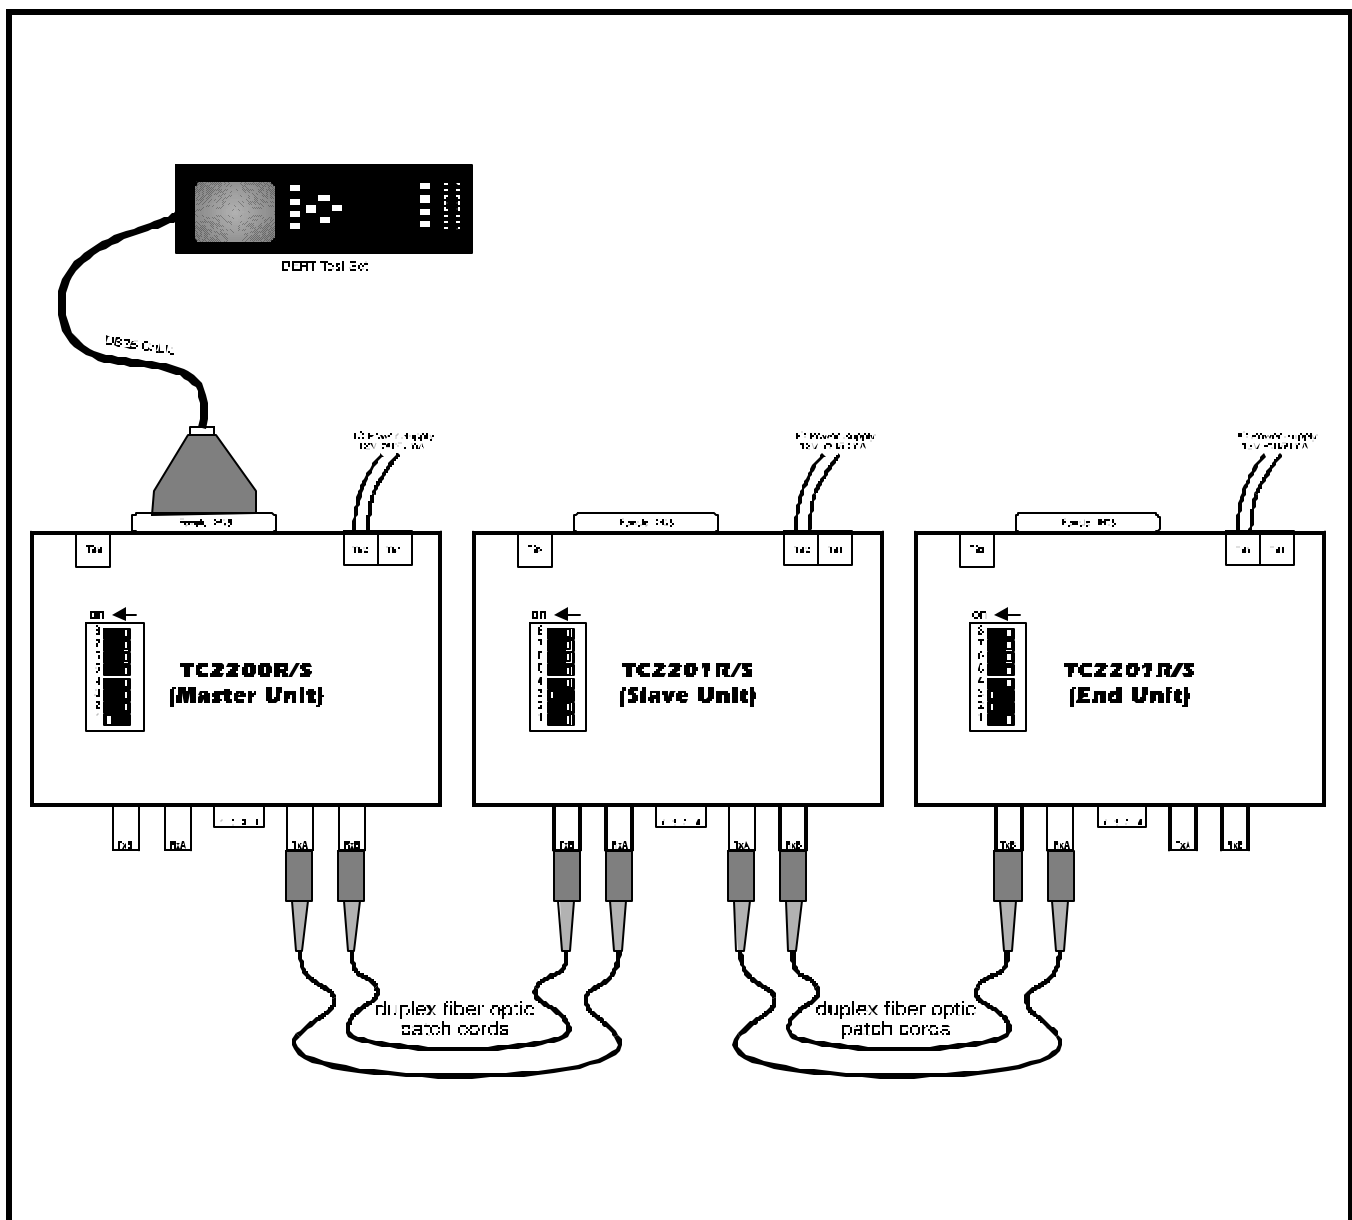

Figure 19. Remote Loopback Bench Test Connection Diagram
**Procedure:** Set up the bench test as shown in Figure 19. Make sure to set the internal DIP switches accordingly for each unit. At the front panel of the Slave unit to be tested, slide **SW2\_1** (RMTLB) to the Down position. Set the tester up as a DTE or DCE device (the opposite of the Master unit's lit "DCE" or "DTE" LED indicator). The "BRD-1" & "BRD-2" and "RSP-1" & "RSP-2" LEDs should be dimly lit, showing the status of the looped signal. The BERT tester (connected to the Master) should indicate a "SYNC" signal.